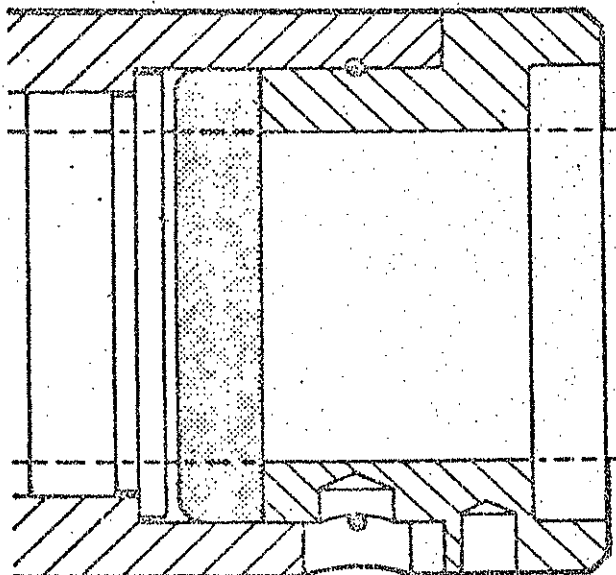

Fig.13
- (e) To re-assemble, insert bronze liner and fit in Gland Seal ROUND END INWARDS. (Fig. 13). Head Bush loosely in position, insert Piston Rod and push right home. Fit 'C' spanner to Head Bush and turn until the hooked end of the Locking Wire can engage in the recess as shown. Rotate Head Bush through one turn to draw Locking Wire right home into grooves.